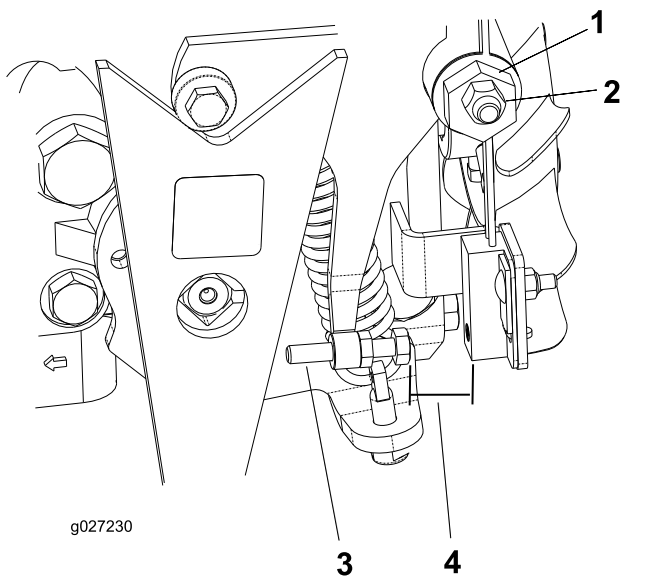

Figure 35
4. Loosen the locknut on the traction-adjustment cam (Figure 35).
5. Start the engine and rotate the cam hex (Figure 35) in both directions to determine the midpoint of the neutral span.
3. Adjust the screw until the air gap is 0.8 to 2.3 mm (0.030 to 0.090 inch); refer to Figure 35.